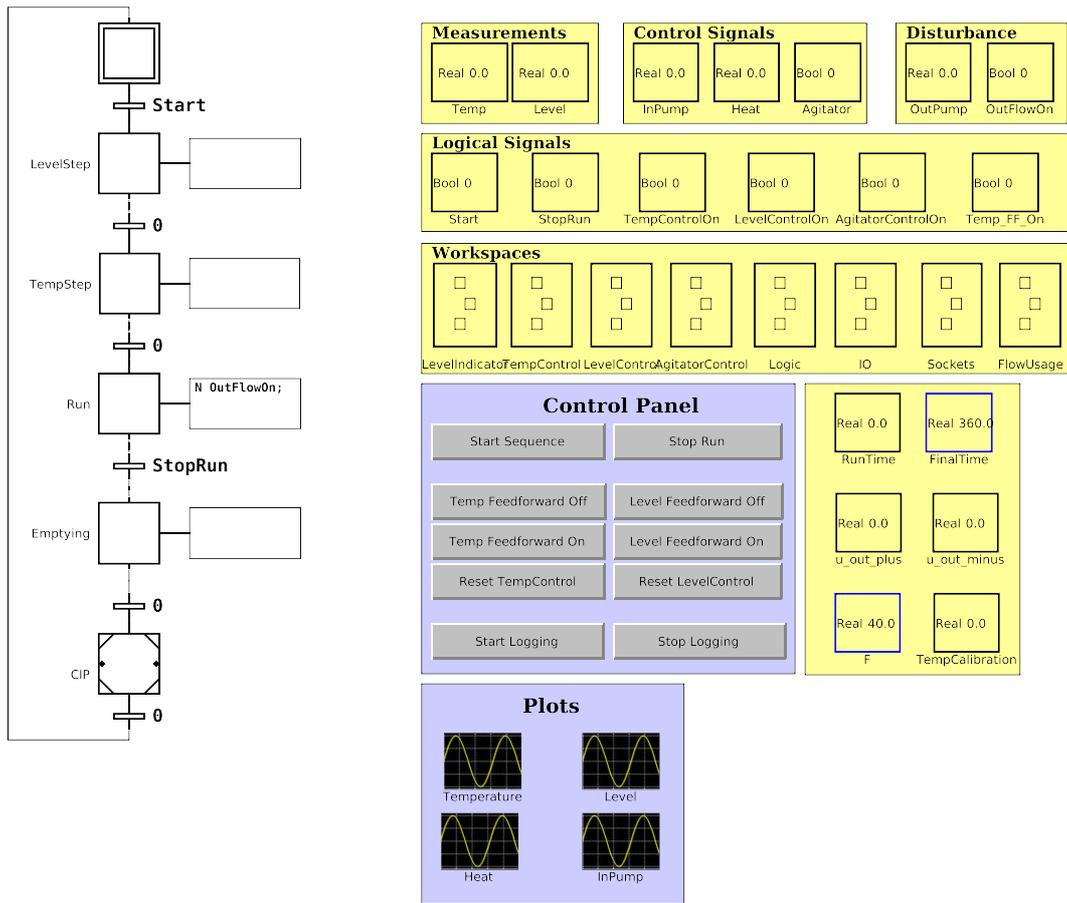

Figure 1 The main workspace in start.xml.
5. Verify that the interface looks like the one shown in Figure 1.